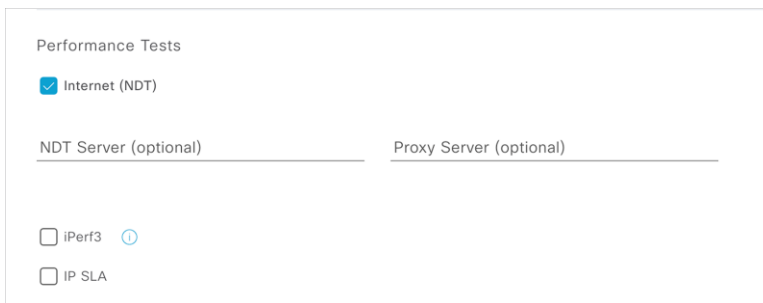

Figure 72.
6. Check the box next to Internet (NDT) to configure that test as part of the test template (Figure 72).